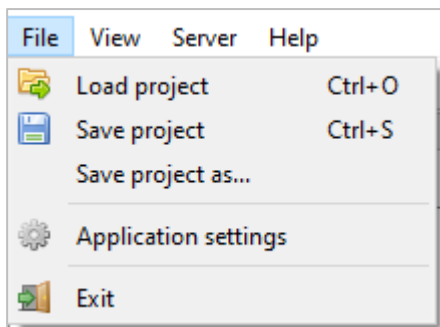

Figure 6: File button options
- File Button- provides the options such as load/save project, Application settings and Exit as seen in Figure 6.